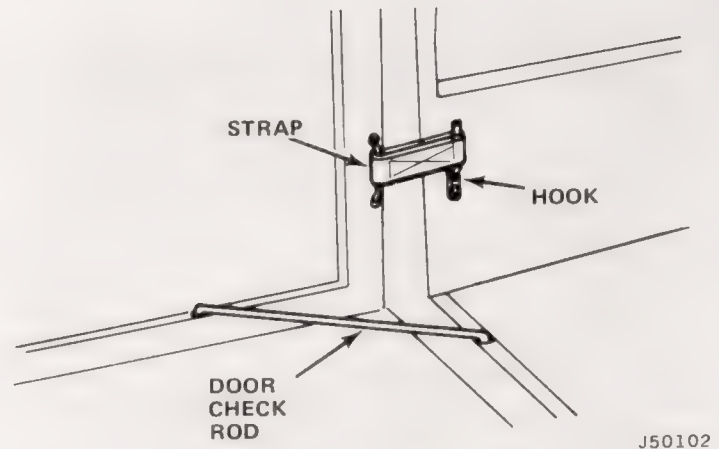

Fig. 2-35 Door Check Components
(1) Open door to desired position (over 90° from closed position). While holding door in this position, swing end of door check rod into position over rear edge of floor and mark location (fig. 2-35).
(2) Drill 3/8-inch hole through floor at location previously marked and place end of door check rod into hole to hold door open.
(3) Hold door open using check rod and insert door strap hook into end loop of strap. Pull strap tight with hook, locate hook on side of wheelhousing, and use hook as template to mark hole locations.
(4) Drill 9/32-inch holes through wheelhousing at locations marked, and attach door strap hook to wheelhousing with bolts and locknuts.